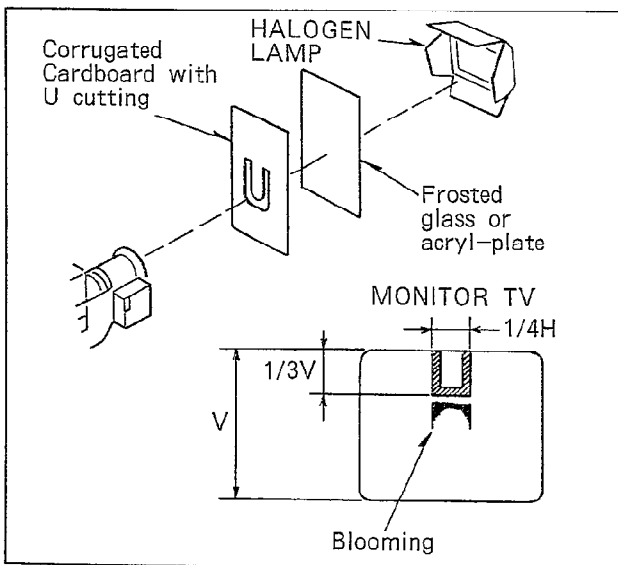
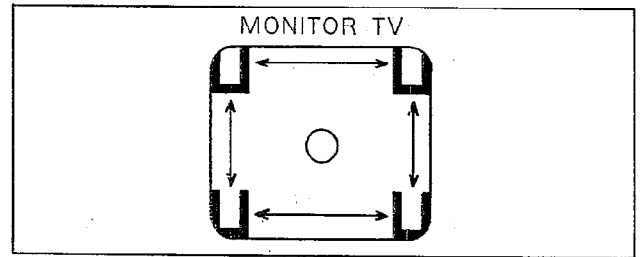

Fig. C14-2
Fig. C14-3
- (1) Zoom all the way in (Fully tele position) and aim the camera at the Halogen Lamp as shown in Fig. C14-2.
- (2) Set the High Speed Shutter SW to "OFF" portion.
- (3) Blind the lighting using frosted glass or acryl plate to diffuse incoming light. And also put a corrugated cardboard which inside is cut to "U" shape as shown in Fig. C14-2.
- (4) Adjust VR201 so that blooming is just disappear. (If blooming is not disappeared completely, adjust until minimum blooming)
- (5) High Speed Shutter "ON" and "OFF" both mode, confirm that the monitored picture does not contain the Blooming even if the camera moves as shown in Fig. C14-3.